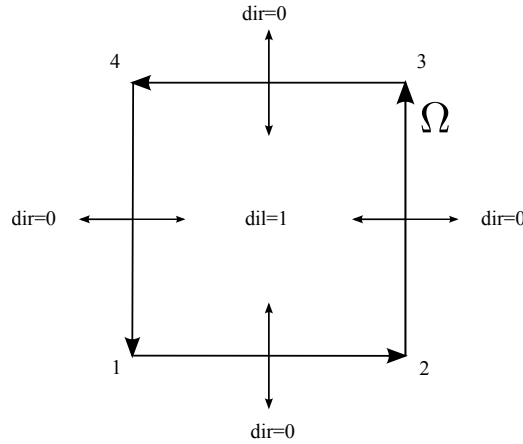

Figure 1: Explanation of `square.in2d`
- Lines 12-17    The first column described as `dil` (domain is left) tells us the domain number of the domain to the left of the segment and the second column `dir` (domain is right) tells us the domain number of the domain to the right. The segments are defined by the points described above. Each segment goes from the point with point number  $P_1$  (column four) to the point with point number  $P_2$  (column five). Figure 1 illustrates this with the big arrows showing the described segments and the small arrows indicating the domain to the left and right respectively. The line/arc column describes the number of points of the segment, with 2 points meaning the segment is a line and three points meaning it is an elliptic arc. In the official manual, you find further information on how the elliptic arc is built [9]. The last column of the segments states the boundary conditions. As we have Dirichlet boundary all over  $\Gamma$ , all segments have the same boundary condition and all belong to `bc=1`.